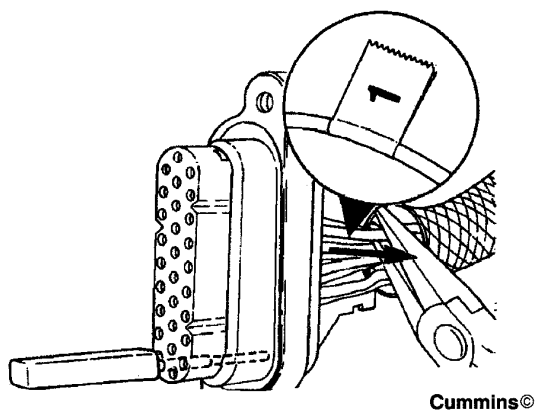

Figure 69 Pull Terminal Out of Connector
4. Hold the tool in the connector, and pull the terminal out of the connector (Figure 69).